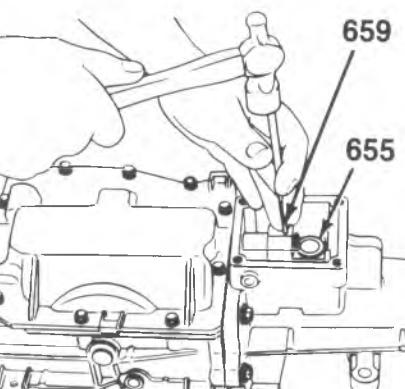

Figure 4—Removing the Offset Lever Pin
- 1. Control lever (653).
- 2. Pin (659) from the offset lever (655), (figure 4).
- 3. Extension housing (613) and the offset lever.